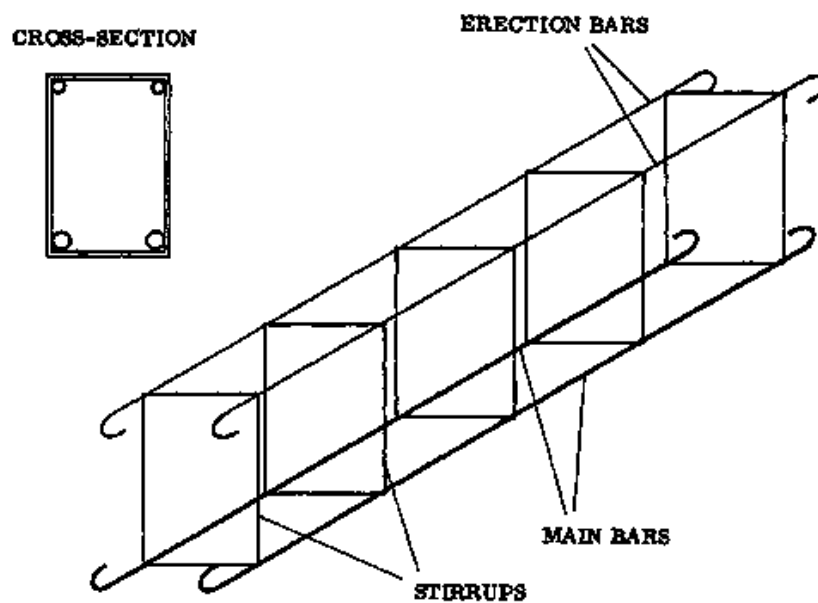

Fig. 1 REINFORCEMENT CAGE
The reinforcement for a lintel consists of several members with different diameters, shapes and functions. The members are often assembled beforehand in the form of so-called cages (see Fig. 1).
- **REINFORCEMENT CAGE:** A typical reinforcement cage is shown in Fig. 1. The lower bars are the main bars. They are normally 12 mm in diameter because they do the actual strengthening of the lintel. The upper bars are thinner and are called erection bars. Since their main function is to hold the cage together, their diameter is only 6 mm. The square-shaped pieces are called the stirrups. They hold the main bars and the erection bars in position. All the different members are bound together with binding wire.